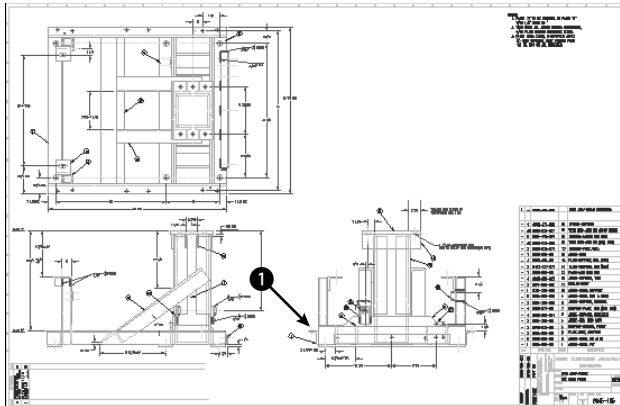
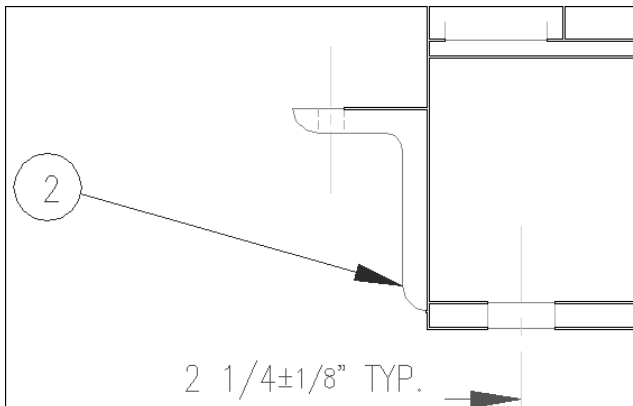

Figure 20-13: This drawing of a base assembly for a commercial washing machine has objects that can be linked to the database of parts.
Figure 20-14: The horizontal angle.
1. You should have `ab20-01.dwg` open from the previous exercise. The Data View window is open with the database visible. The `PART_NO_Link1` link template is current. You can see the entire drawing in Figure 20-13.
6. AutoCAD returns you to your drawing. Use the Zoom Window to zoom into the area marked **1** in Figure 20-13.
7. Select all of the objects that make up the angle bracket indicated by **1** in Figure 20-13 (and which the drawing itself labels as 2), as shown in Figure 20-14. Include the two cyan hidden lines representing the hole, but not the yellow centerline. Don't select the vertical line on the right of the angle, which belongs to another part. Press Enter to end the selection. AutoCAD returns you to the Data View table and displays 1 Record(s) linked with 8 Object(s) on the command line.